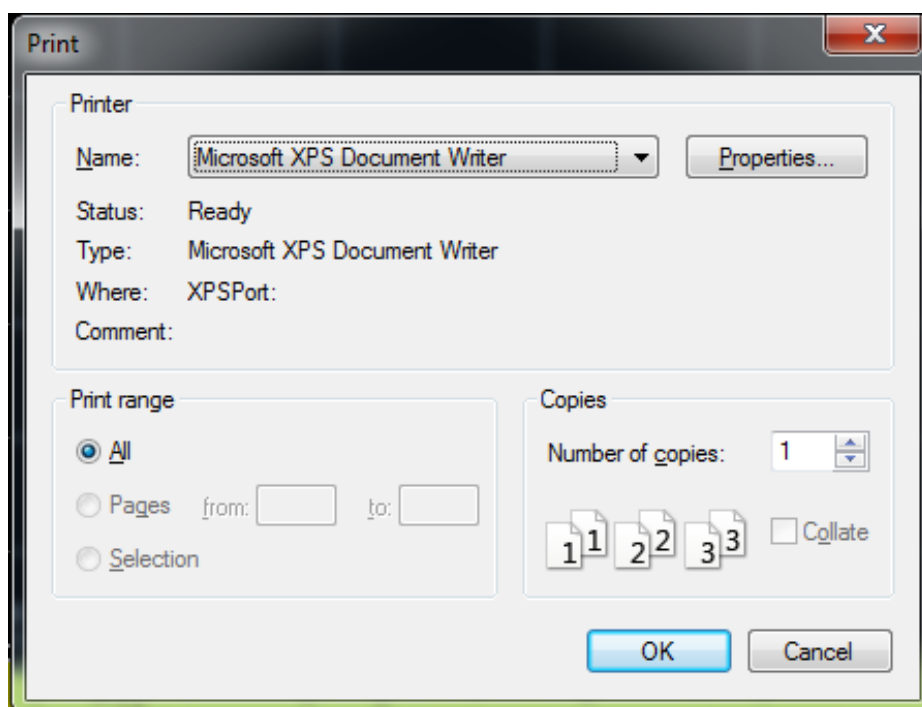

Fig. 3.9 Print dialog
- Press **【Printer】** on the front panel to pop up Print Setting dialog as shown in Fig. 3.9.